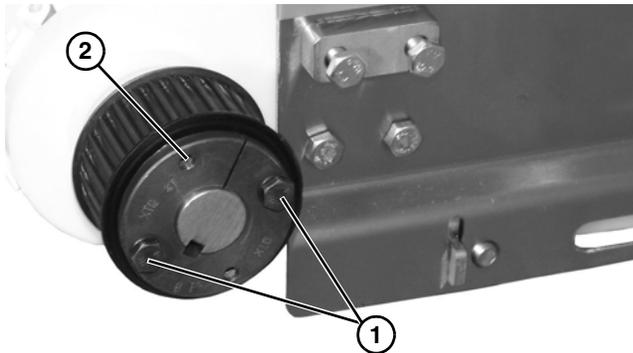

Figure 17
- Remove taper-lock screws (**Figure 17, item 1**). Insert one of taper lock screws in remaining hole (**Figure 17, item 2**). Tighten screw until pulley is loose. Remove pulley and taper hub assembly.